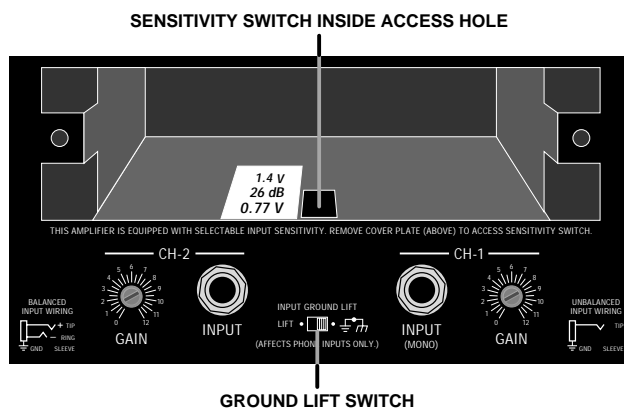

Fig. 4.2 Input Sensitivity and Ground Lift Switches
3. Locate the access hole for the sensitivity switch inside the chassis opening (Figure 4.2). The sensitivity switch will not be visible because it is mounted below the hole. Use your little finger to reach it.